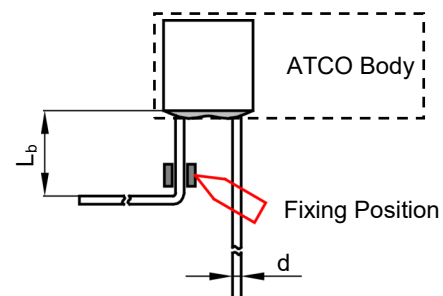

FIGURE SD-2
2. When bending leads, please use pincher or similar tools to fix the product as shown in Fig.SD-2, to avoid damaging the product.